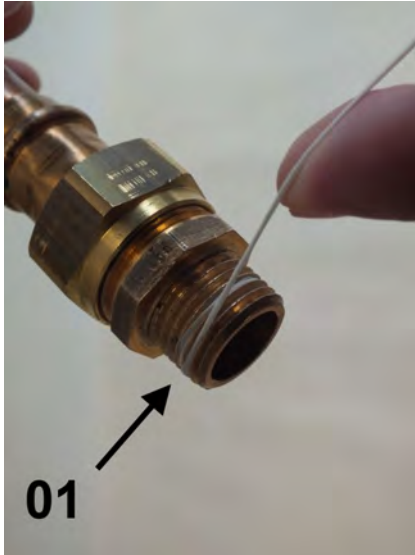

Fig. 9: Apply sealing thread
2.  Apply sealing thread (Fig. 9/01) to the napped area in the threaded direction. Observe the quantity recommended by the sealant manufacturer.